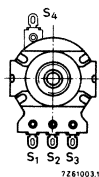
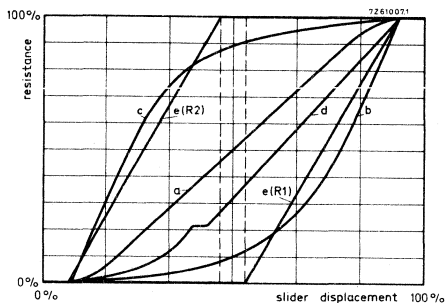
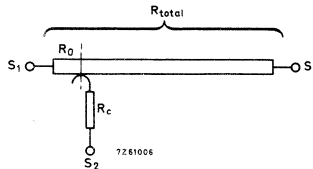

Fig.1 Potentiometer viewed from the spindle end.
Fig.2
Fig.3 Diagram of potentiometer; spindle in fully counter-clockwise position.
Nominal resistance (R_n) - Nominal value of the resistance between the end terminals S1 and S3 (Fig.1), with the spindle in fully clockwise or counter-clockwise position.
Resistance law - Relation between the displacement of the slider contact and the resistance between the end terminal S1 and the slider terminal S2, R₁₋₂ (Fig.1). The control potentiometers are available with several resistance laws: linear (a, Fig.2), logarithmic (b), reversed logarithmic (c), with tap (d), balance (e).
Terminal resistance - Resistance between the end terminal S1 (Fig.1) and the slider terminal S2 with the spindle in fully counter-clockwise position (see Fig.3).
Minimum resistance at the tap - Minimum adjustable resistance between the tap terminal S4 (Fig.1) and the slider terminal S2.
Maximum attenuation - Maximum adjustable attenuation when the potentiometer is used as an attenuator (see Fig.3).
Maximum dissipation (P) - Maximum amount of power which can be dissipated at a given ambient temperature, when the potentiometer is continuously loaded between the end terminals S1 and S3 (Fig.1) and mounted on a steel panel of 100 x 100 x 1,5 mm.